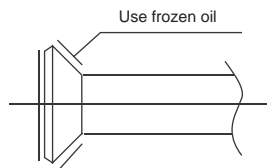

Fig. 8-1
- ① Bend the tubing in proper way. Don,t harm them.
- ② Daub the surfaces of the flare pipe and the joint nuts with frozen oil, and wrench it for 3~4rounds with hands before fasten the flare nuts. (Refer to Fig.8-1)
- ③ Be sure to use two wrenches simultaneously when you connect or disconnect the pipes.